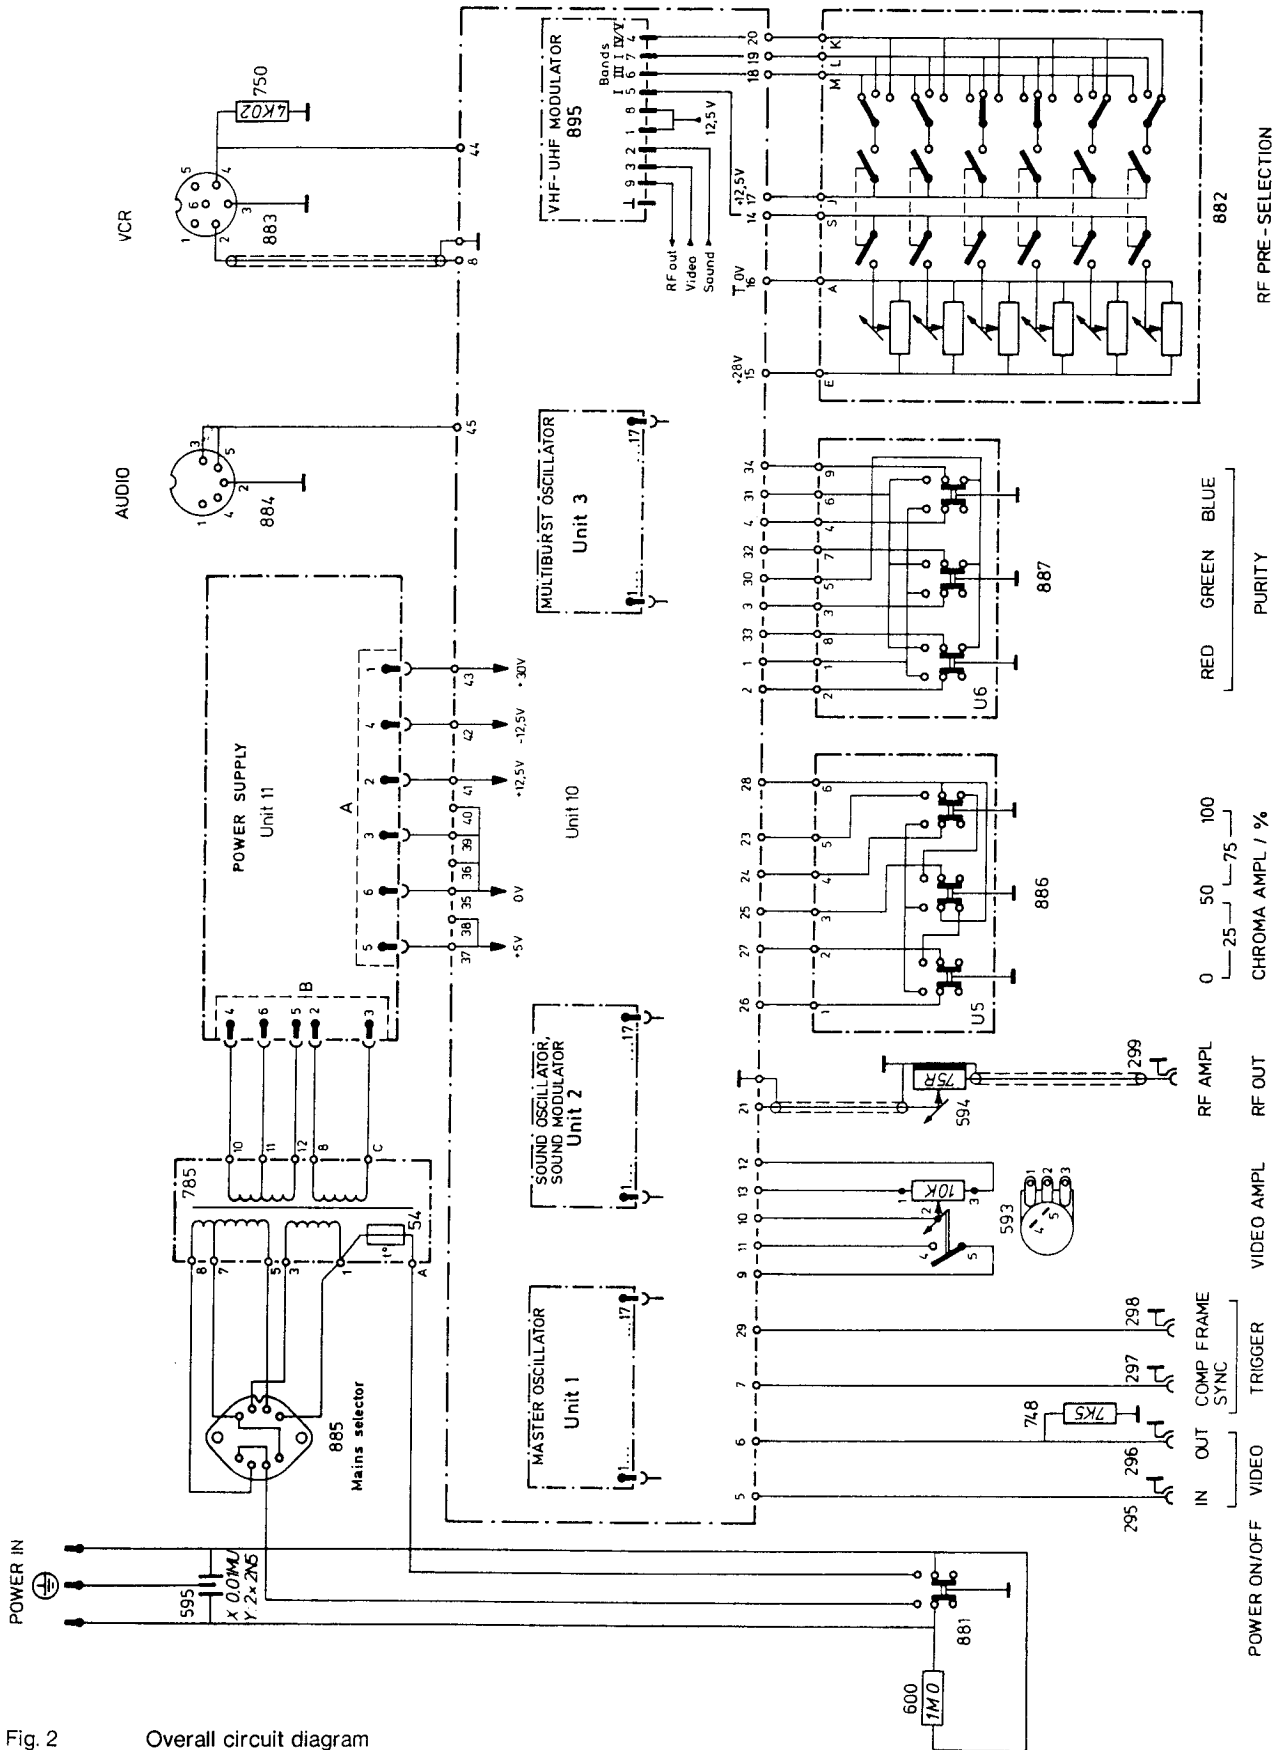

Fig. 2 Overall circuit diagram
2.1.4. **Overall circuit diagram, fig. 2.**
The connections and terminations of the main unit U10, the power supply unit 11, and the controls and sockets of the sub-units of unit 10 are shown in the figure 2. The complete single circuit diagrams are shown in the figures 24, 26, 28, 30, 32 and 34.